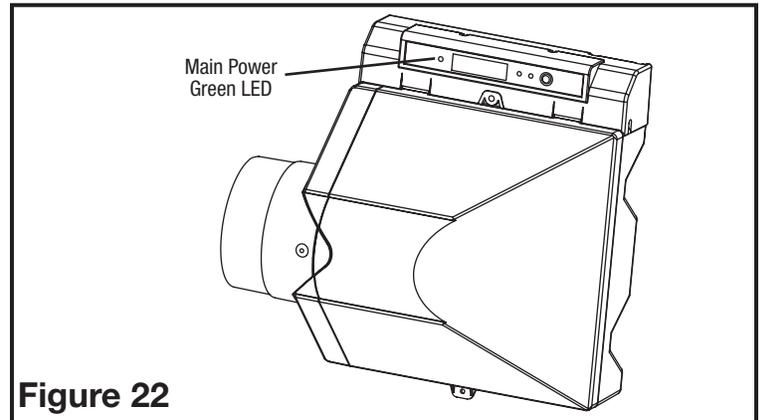

Figure 22
2. Plug in the 24-Volt transformer into a constant 120-Volt power source (an outlet which cannot be shut off via a wall switch). Turn on the humidifier by depressing the main red ON/OFF button – When the unit is powered the main green LED on the Digital Humidistat Top Console will turn ON (Figure 22).